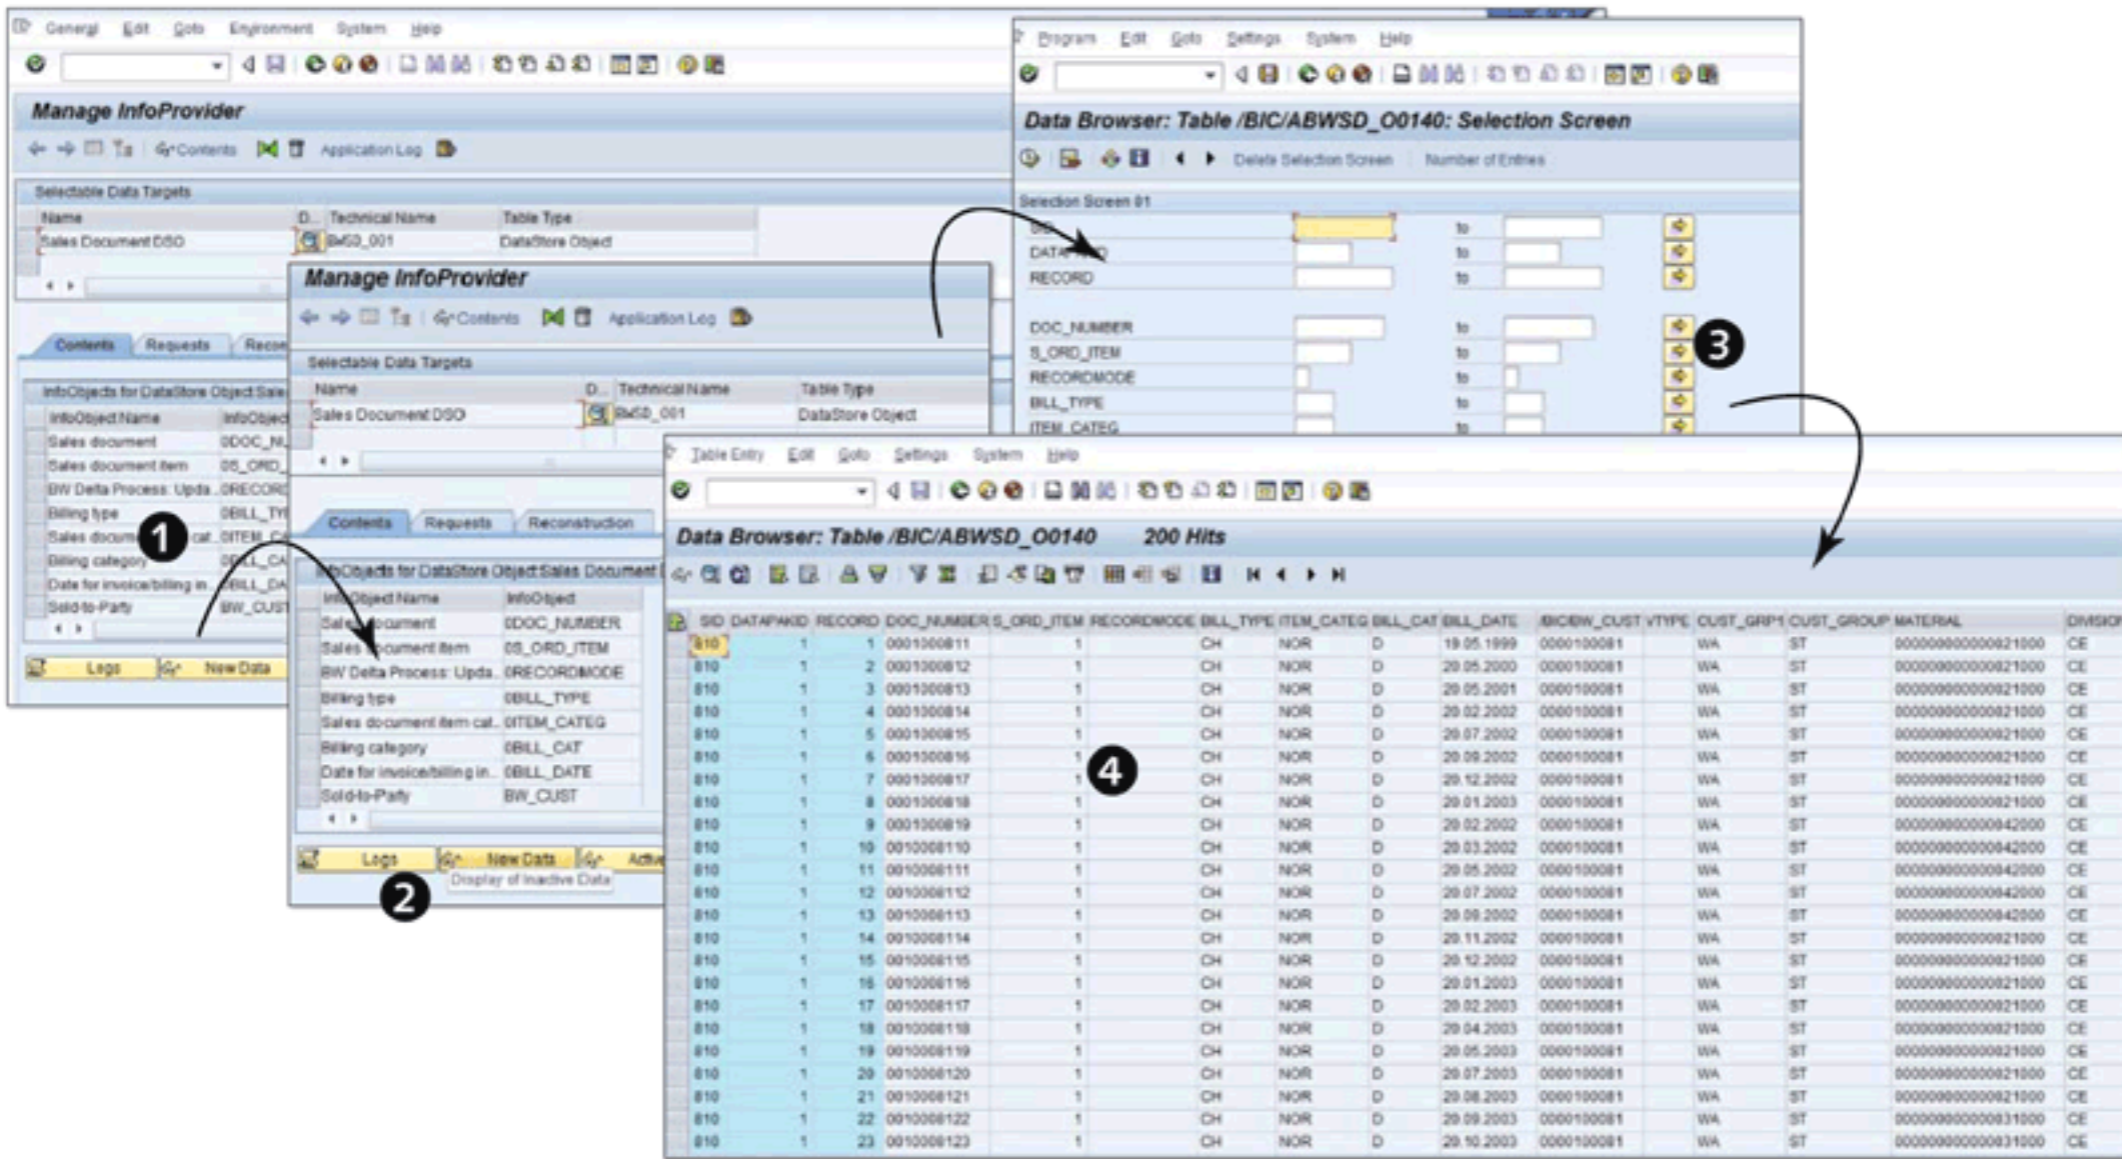

Figure 14.3 View Content of DSO: Active Data Table
The lower part of the CONTENTS tab (1 of Figure 14.3) provides buttons that allow you to view different types of content (2 of Figure 14.3). Click on the button for the chosen table (the NEW DATA button refers to the activation queue), and the system takes you to the DATA BROWSER: TABLE <TECHNICAL NAME> screen (3). The selection screen contains fields for each of the InfoObjects in the DSO, along with the technical field value options relevant to the type of table. Click on the NUMBER OF ENTRIES button, and the system provides information about the number of entries. To make a complex selection, use the COMPLEX SELECTION (4) icon. Make a selection for different InfoObjects on this screen, and click on the EXECUTE icon (5) to view the contents of the activation queue (new data) table (4).